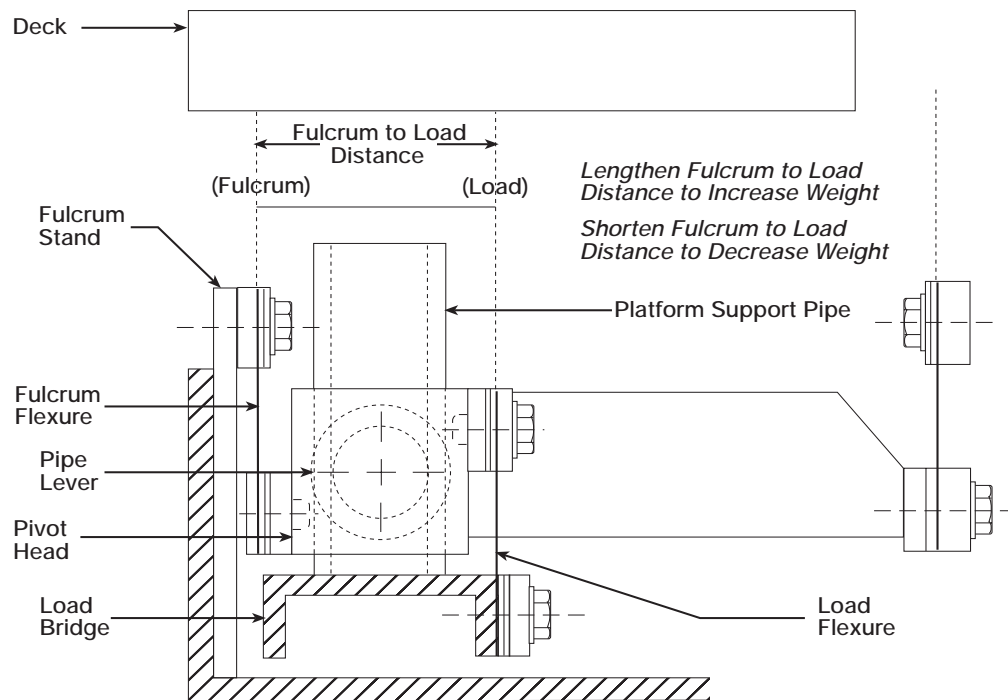

Figure 2
6. Use Figure 2 and exercise below as a guide and perform one of the following: